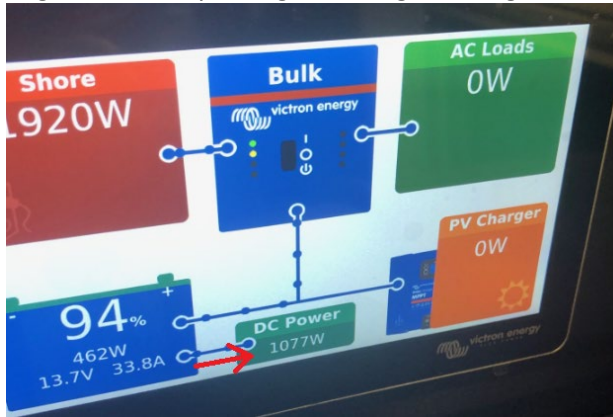

Figure 12
17. To ensure the secondary alternator is functioning as intended, start the engine. At idol, CHG AMPS will be negative, battery voltage will be green. Figure 12